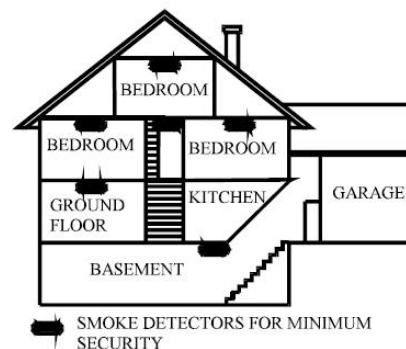

FIGURE 3
2. Install a detector on every floor of a multi-floor home or apartment as shown in FIGURE 3.